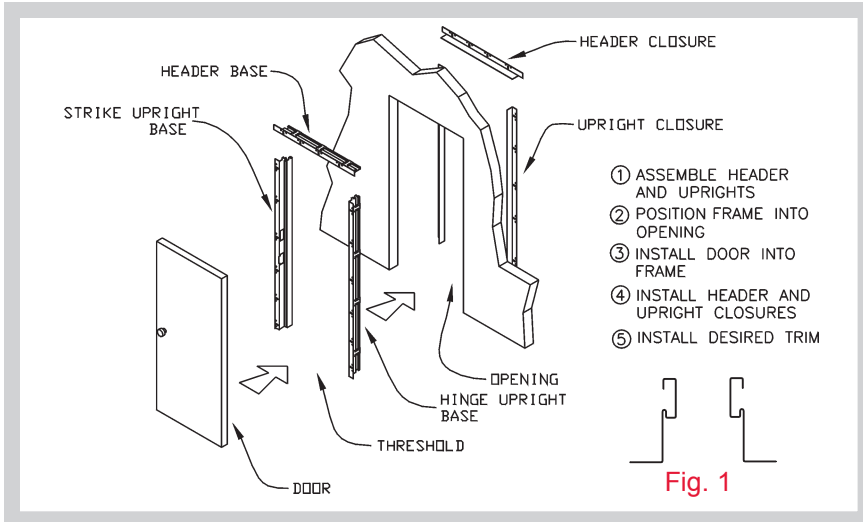
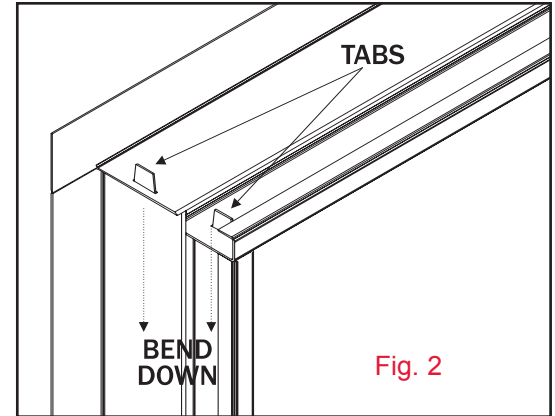

Fig. 1
Fig. 2
- 2** **Assemble base side of frame** (which consists of hinge jamb, strike jamb, and header) by placing the face or nailing flange face down on a flat surface (Fig. 1). Insert tabs which are located on the ends of the jambs into the slots in the header. Bend tabs outward and down to secure tight fit between the jambs and header (Fig. 2). Stand frame upright and place into rough opening. **Note:** If using threshold, install prior to placement into rough opening.